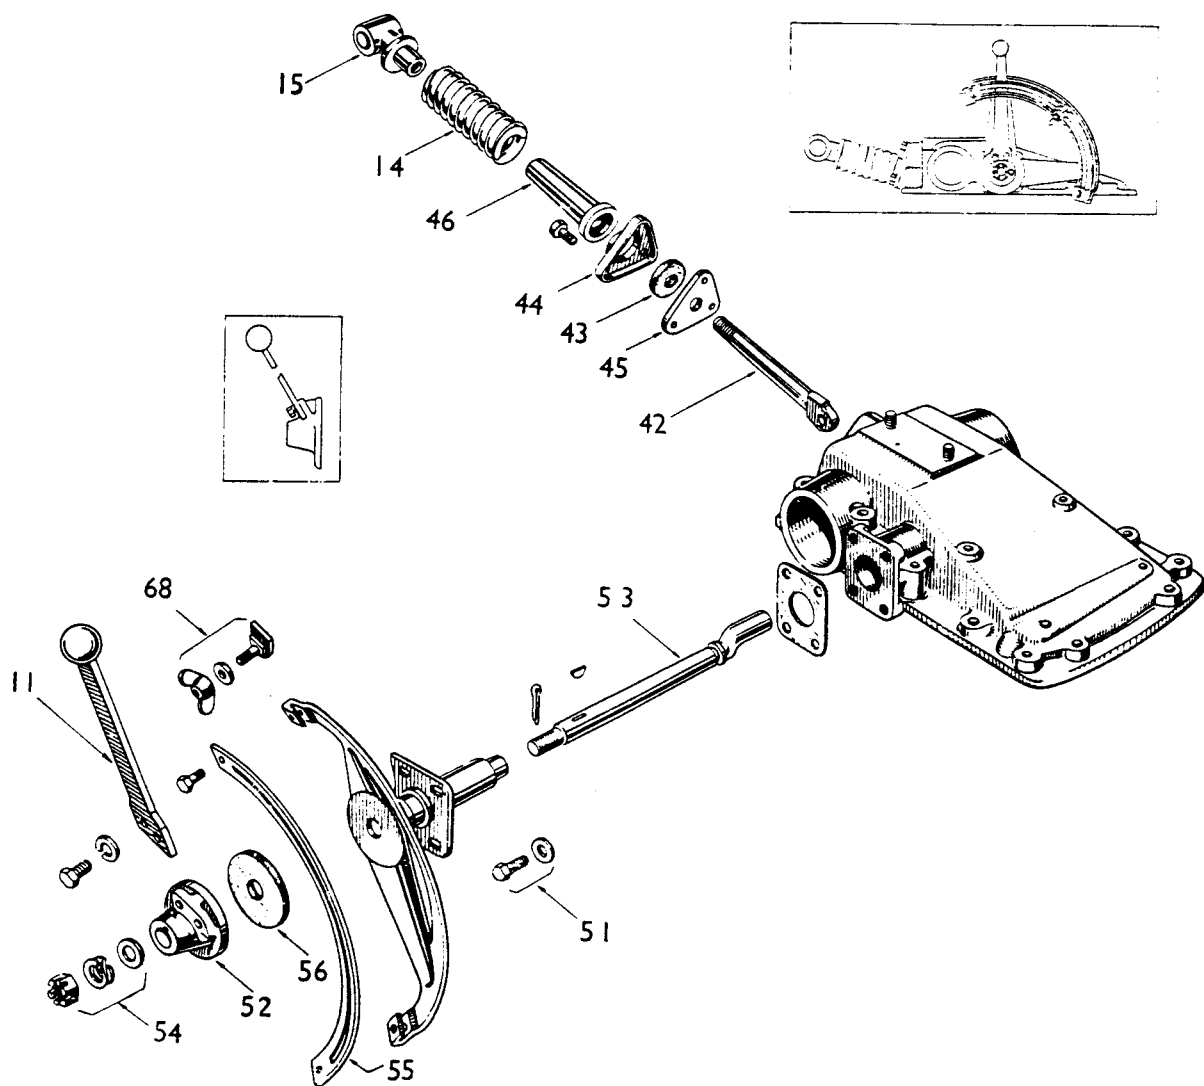

FIG. 20
NOTE :—The control spring fork is connected by pin (41) at the rear, to the control spring assembly (see Fig. 20, item 42).
(FIG. 20)
## TO REMOVE AND DISMANTLE QUADRANT ASSEMBLY (FIGS. 20 AND 21)